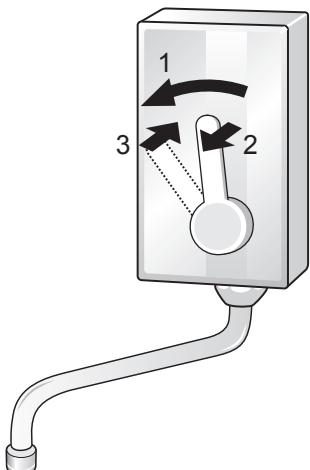

Fig. 4a
- It is best to start the adjustment by turning the stirring head to the left and to oneself. The start suppressing the flow of water by slowly pulling aside the handle towards the heater (fig. 4a).